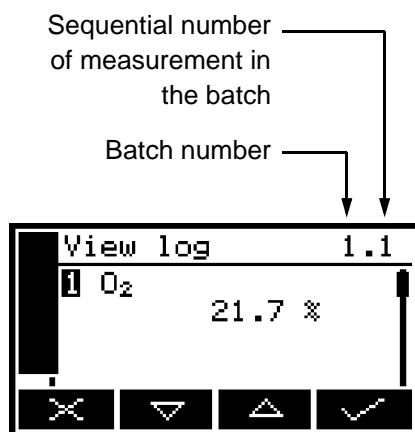

Figure 45 - The View log (batch) screen
2. Use the  and  soft keys to highlight the "View log" option, then press the  soft key. The View log (batch) screen is then displayed, alternating with the View log (date) screen: see Figures 45 and 46.